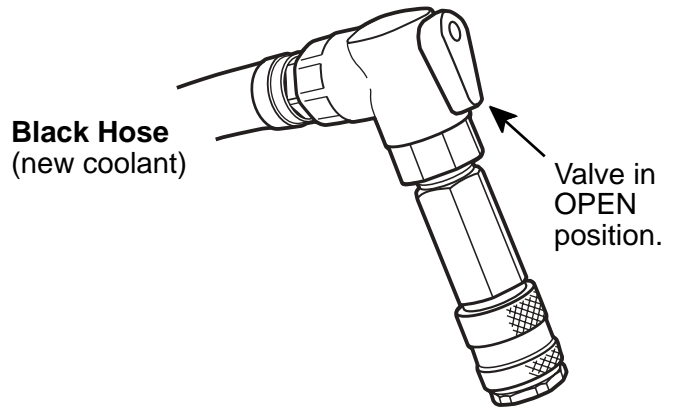

Figure 3
- the valve on the black hose is open. See Figure 3.